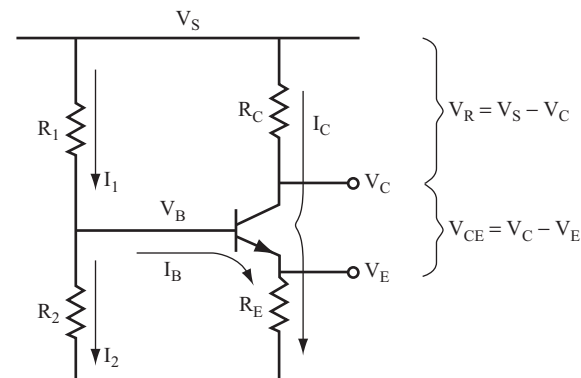

FIGURE 8.6
The labels in Figure 8.6 identify the DC currents and voltages present in the circuit. These parameters are used in the next several problems.
12 Look at the gain first. The gain formula for the circuit shown in Figure 8.6 is as follows:
Use the circuit shown in Figure 8.6 with $R_C = 10 \text{ k}\Omega$ and $R_E = 1 \text{ k}\Omega$ to answer the following questions:
- A.** Calculate the voltage gain (A_V) of the amplifier circuit shown in Figure 8.6 if $R_C = 10\text{ k}\Omega$ and $R_E = 1\text{ k}\Omega$. Then, use A_V to calculate the output voltage if the input signal is 2 mV_{pp} . _____
Although the amplifier circuit shown in Figure 8.6 produces stable values of voltage gain, it does not produce high values of voltage gain. For various reasons, this circuit is limited to voltage gains of 50 or less. Later, this chapter discusses an amplifier circuit that can produce higher values of voltage gain.
14 Before you continue, look at the current relationships in the amplifier circuit shown in Figure 8.6 and an approximation that is often made. You can calculate the current flowing through the emitter resistor with the following equation:
6. Find I_2 where I_2 is $10I_B$. (Refer to the circuit shown in Figure 8.6.) This is a convenient rule of thumb that is a crucial step in providing stability to the DC bias point.